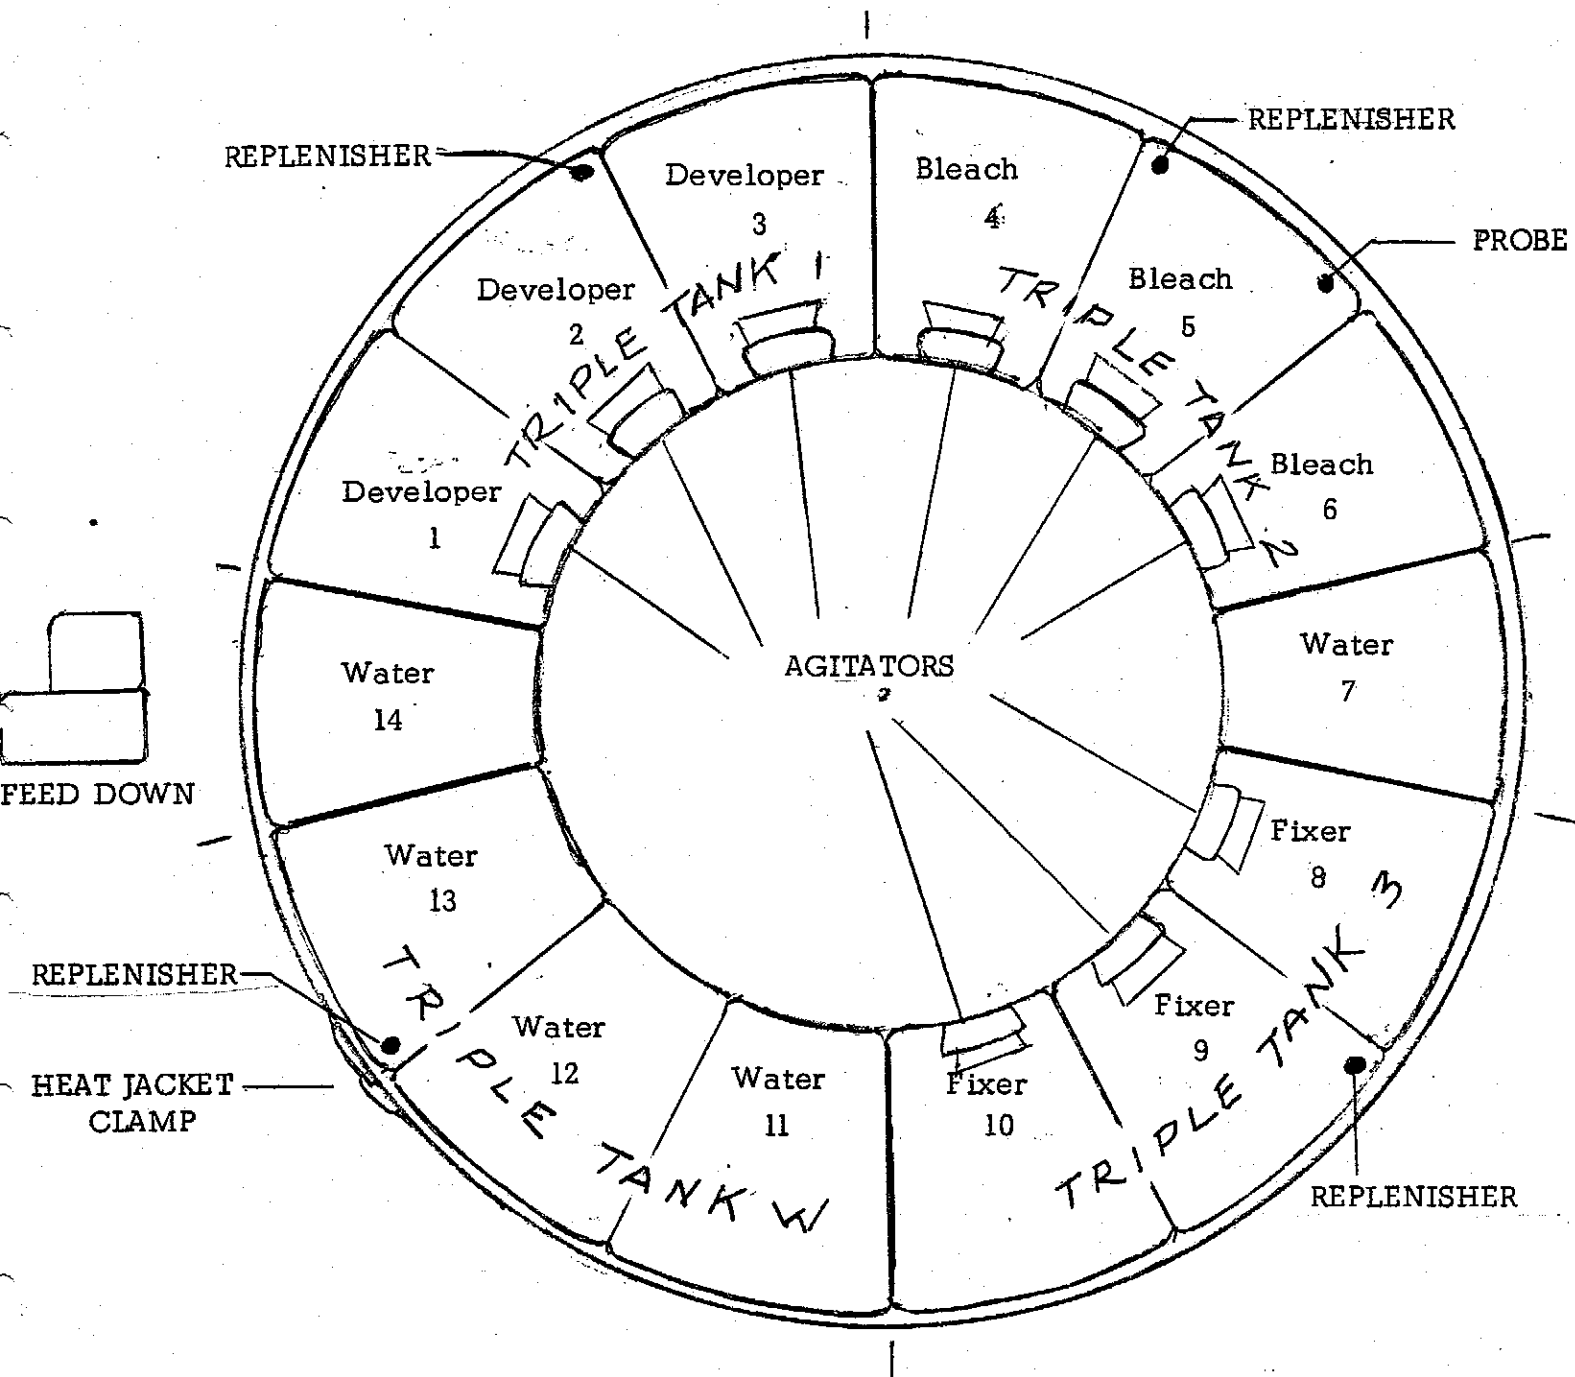

FIGURE 27
1. The chemicals in solution and water for rinses are poured from their delivery containers into tanks in a configuration shown in Figure 27 as follows:
9. Hang the bottles back in proper order, and clip the end of the tubing just below the liquid surface (Refer to Figure 27).